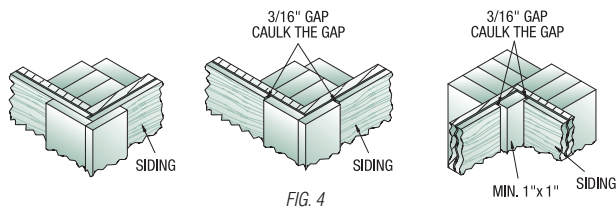

FIG. 4
- Gap butt joints $\frac{3}{16}$ " and caulk. See Fig 4.